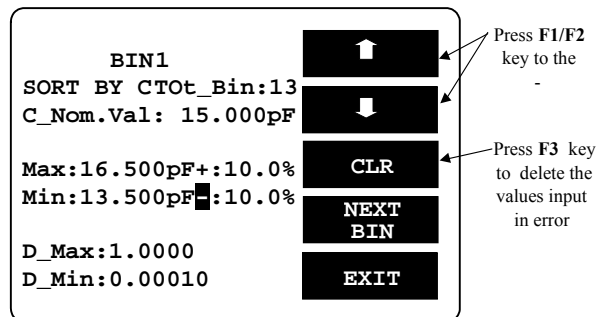

Figure 8-20
- Press  key. Please refer to Figure 8-20 below.